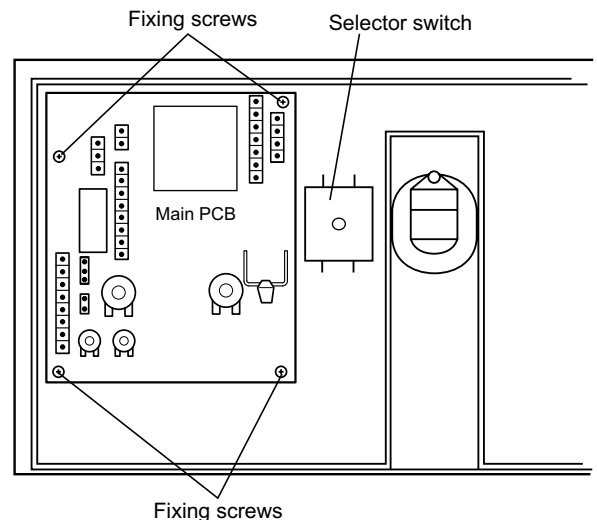

Fig. 26
8.16 SELECTOR SWITCH - Refer to Fig. 26
8.17 MAIN PCB - Fig. 26